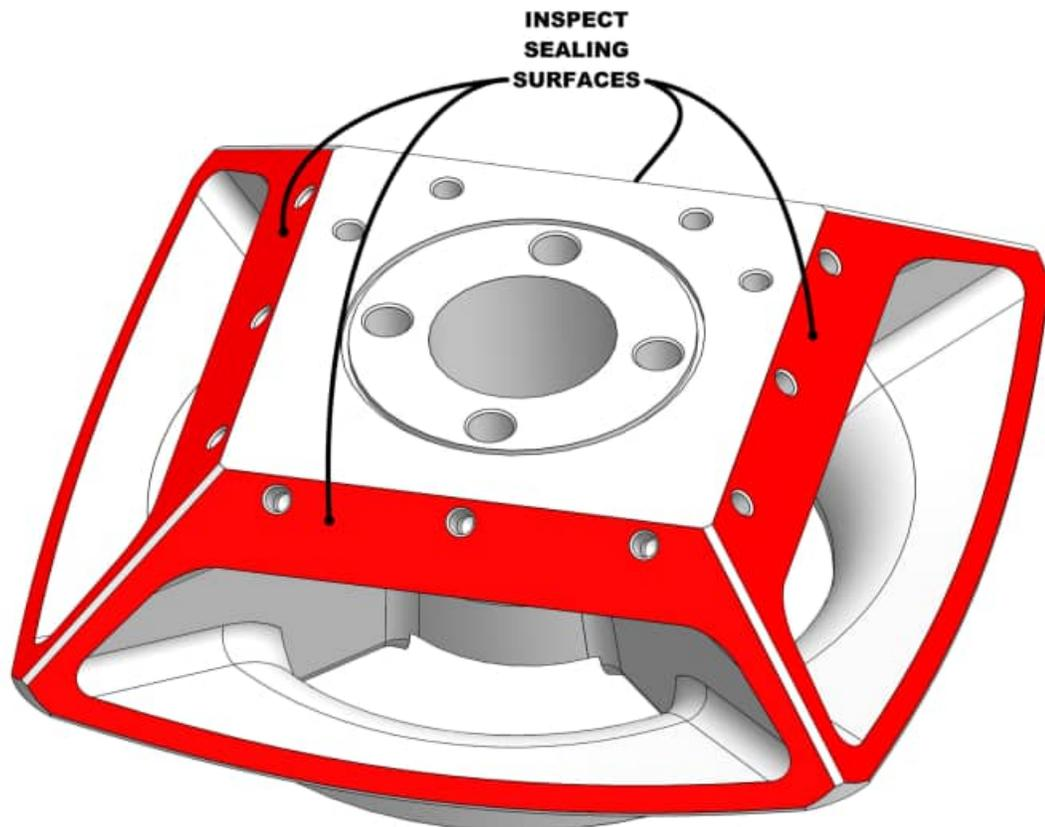

Figure 32: Check Valve Sealing Surface Inspection
- c. Install the shaft seal in the outlet side of the stator sleeve with the open side of the seal facing up (see Figure 32).